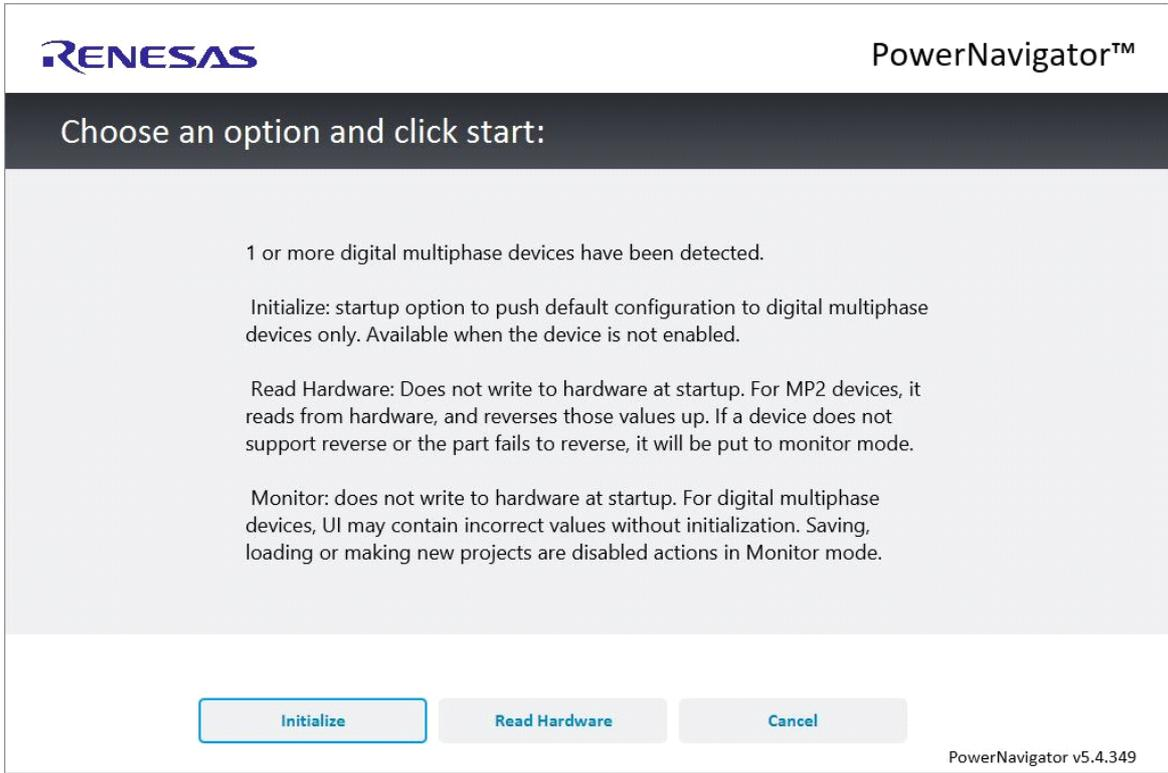
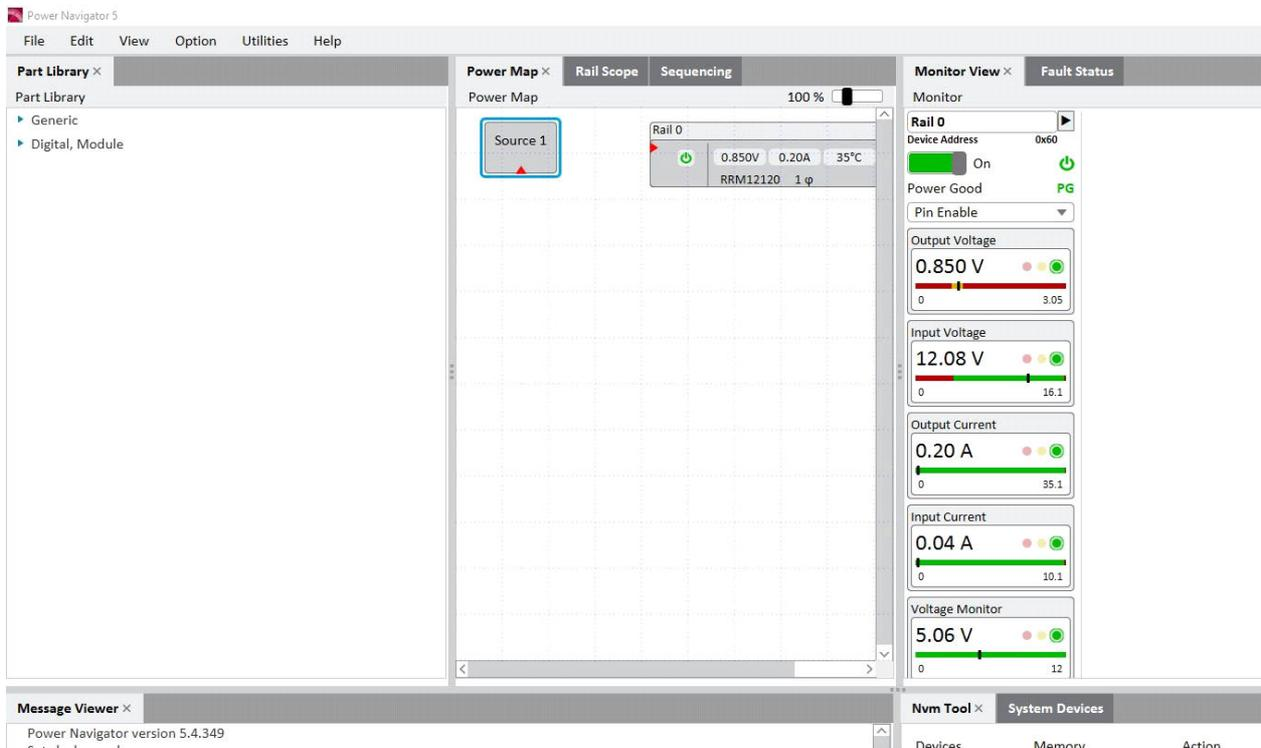

Figure 3. PowerNavigator Initialization Page
Figure 4. PowerNavigator Monitor View Page
- Hit the **Start** button. Hit **Read Hardware** in the next screen as shown in Figure 3. A new page shown in Figure 4 appears.